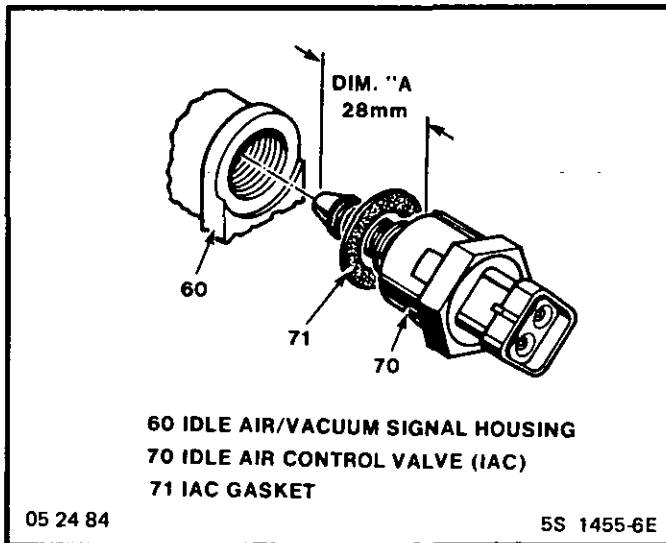

Figure C2-9 Idle Air Control Valve Assembly
- Distance from gasket mounting surface of IAC valve assembly (70) to tip of pintle, Dimension : "A" in Figure C2-9.